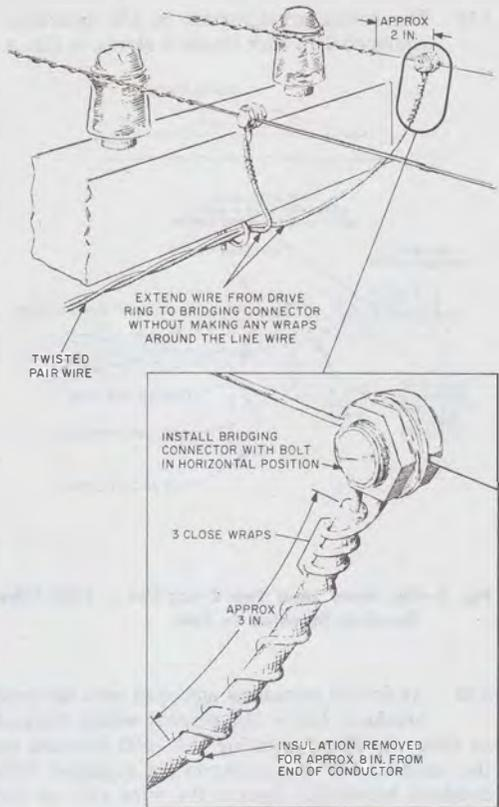

**Fig. 6—Where Lines are Terminated on Deadend Brackets Attached to Face or Back of a Pole**
4.15 Poles equipped with deadend brackets (Fig. 6).